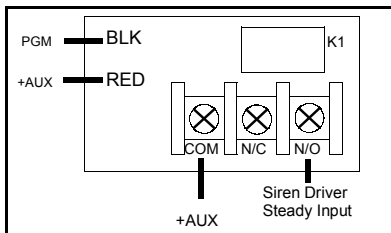

FIGURE 7 KEYFOB/KEYSWITCH
(4) **Keyfob/Keyswitch Chirp** - Program to chirp the PGM Output (1) one time when the panel is armed or (2) two times when the panel is disarmed. Wire as shown in Figure 7.